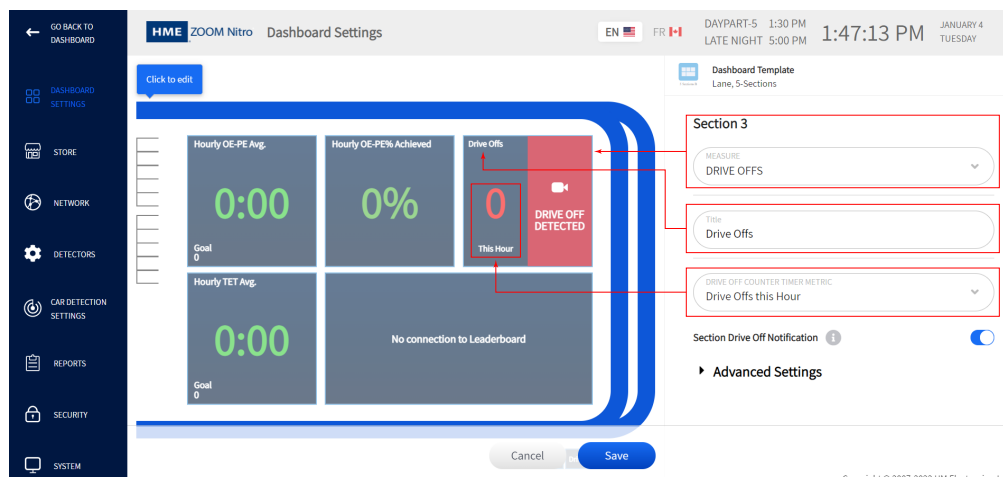

Fig. 7.11
3. Under the Dashboard Template, choose **DRIVE OFFS** from the drop-down menu of the first field "MEASURE." Then give your section a Title, and finally choose a metric from the drop-down menu of the third field. In this example, it's "Drive Offs this Hour." See Fig. 7.11. Click the Save button to save your change.